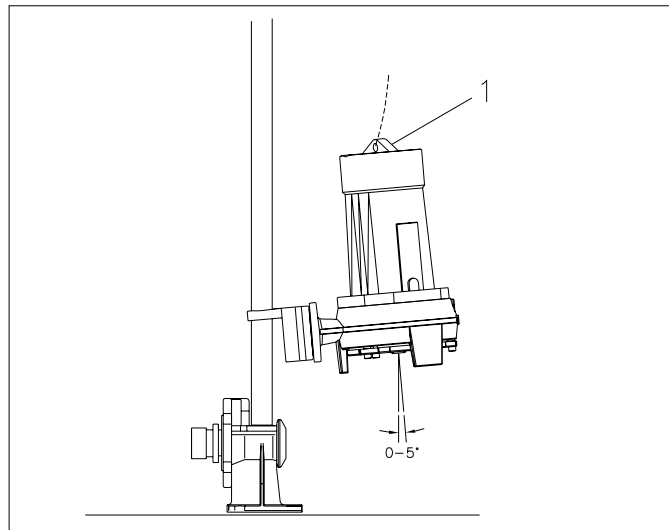

Fig. 6.3
- The installation angle must be about 0-5° (see Fig. 6.3). If necessary, this angle can be changed by altering of the position of the lifting hook at the top of the motorhousing (Pos. 1)
- Check that the motor is adequately cooled. The motorhousing should be at least 2/3 submerged for continuous operation at full load (see Hmin.1 Fig. 6.3).